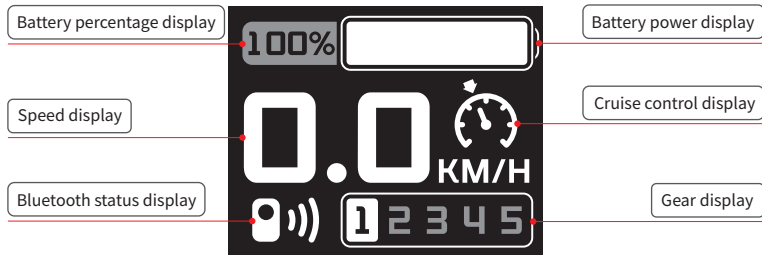

Figure 4.3.3.1
(1) Battery percentage display (as shown in Figure 4.3.3.1)
(2) Speed display (as shown in Figure 4.3.3.1)
(3) Bluetooth status display (as shown in Figure 4.3.3.1)